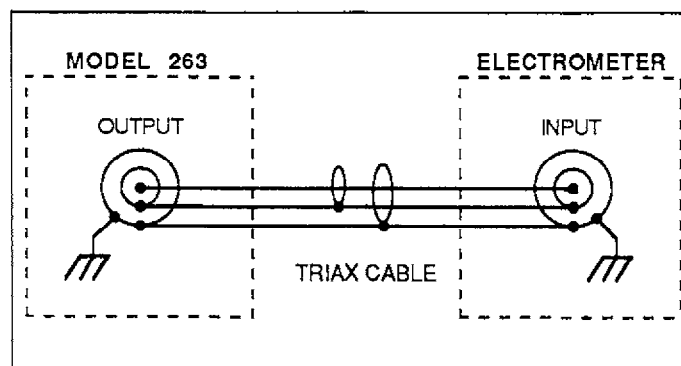

Figure 3-21. Unguarded Sourcing to Electrometer
sourcing, simply connect the output of the source to the input of the electrometer as shown in Figure 3-21. Adapters for non-triax input connectors are described in paragraph 3.10.1. Guarded connections should be used for sourcing $>100\text{M}\Omega$. Required guarding schemes are described in paragraph 3.7.1.
- B. To source voltage to an electrometer, connect the output of the Model 263 to the input of the electrometer as shown in Figure 3-21. If the electrometer does not have a triax input connector, an adapter will be needed (see paragraph 3.10.1.).